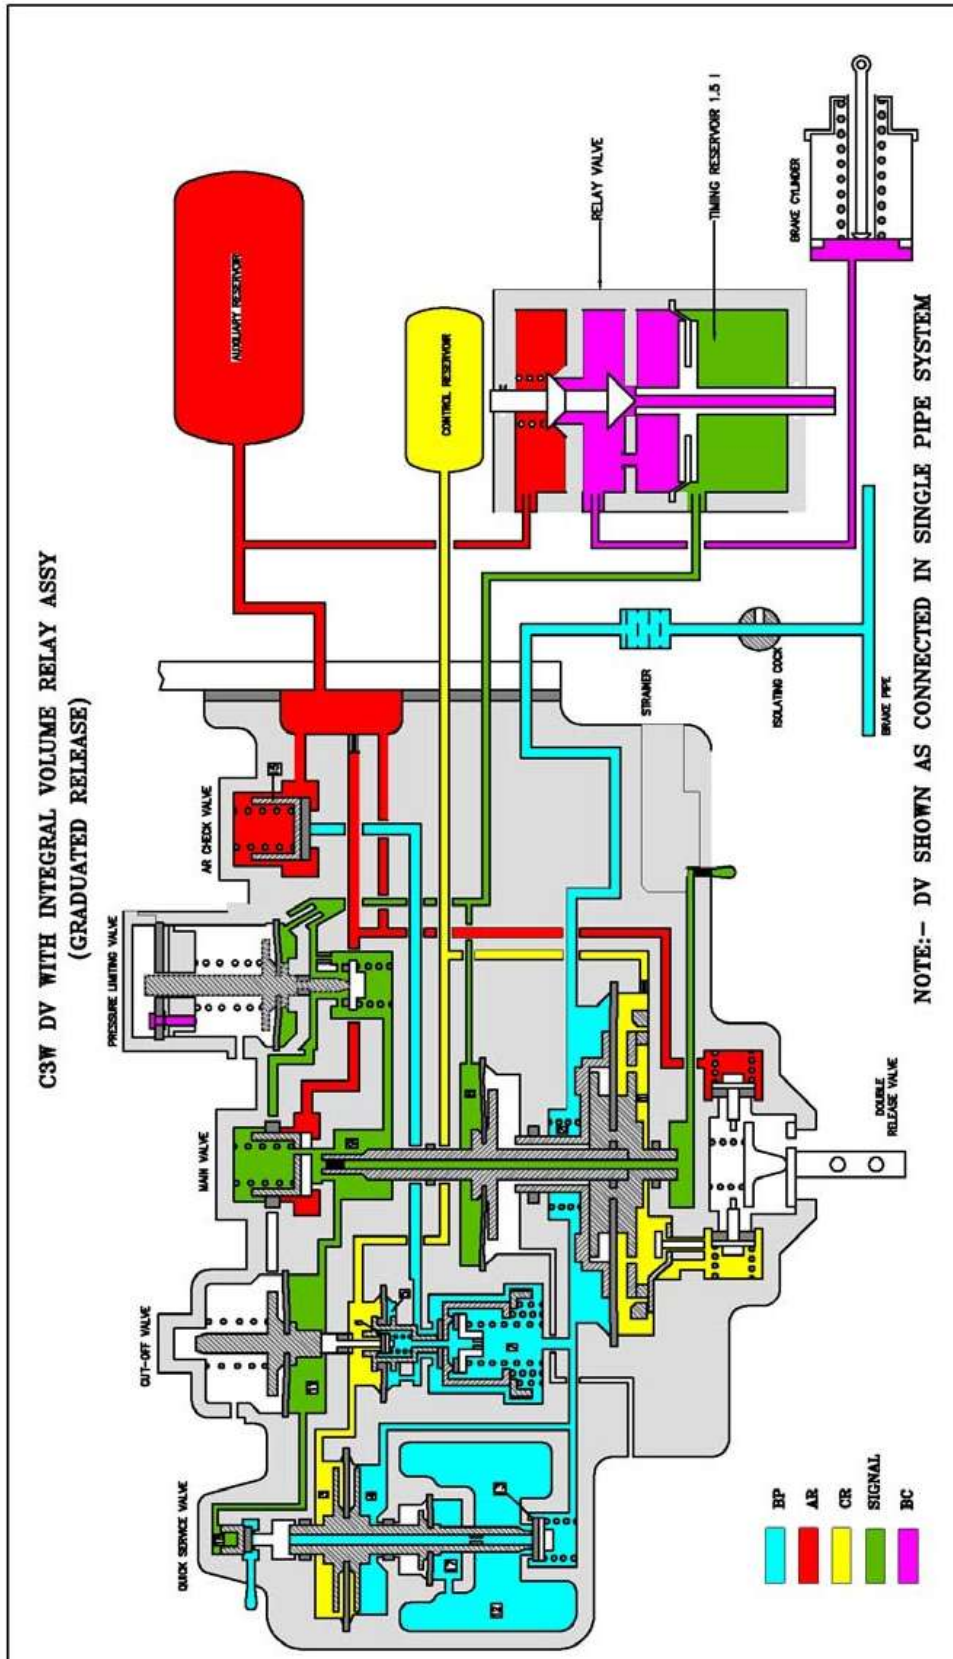

FIG 5.1 MAIN VALVE
(Ref. Fig 4.1 and Fig 5.1)
(Ref. Fig 4.1 and Fig. 5.1)
- A locking rod maintains the Valve (11) (Control Reservoir) in open position and prevents re-closing after a single action on operating lever i.e. if a manual release is carried out when the Brake Pipe pressure is lower than that in the Control Reservoir. When the Brake Pipe pressure is higher than the Control Reservoir pressure, a Ring (23) (under Diaphragm Follower) is moved downwards by Lower Diaphragm (6) and causes a trigger 2C (Fig. 5.1) to raise Latching Stem (2D). This releases Valve (11) (Control Reservoir) and allows it to re-close.